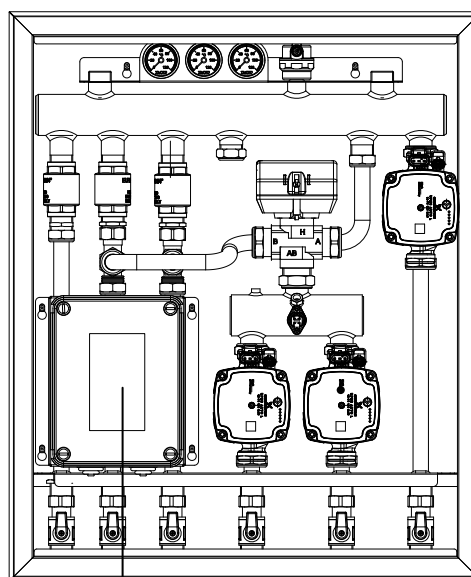

fig. 2
3. Set the zone management board according to the type of module (fig.2).